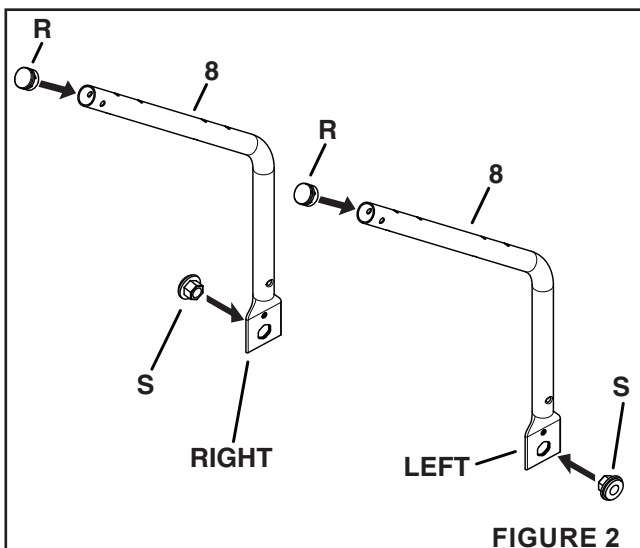

FIGURE 2
Step 2: (See Figure 2)
1. Insert plugs (R) into the ends of the hopper tubes (8) using a rubber mallet if needed.
2. Insert hex flange bearings (S) into the holes in the hopper support tubes (8) as shown below.